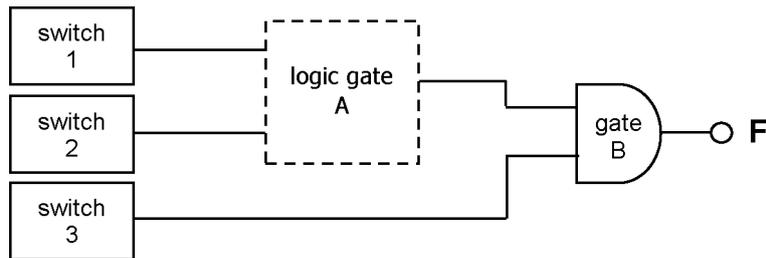
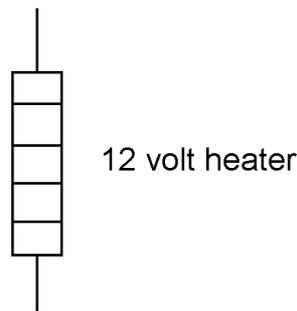

Fig. 1
Fig. 2
- 9 (a) A logic circuit is shown in **Fig. 1**. The logic inputs to the circuit are provided by three push to break switches.
- (i) Logic gate A in **Fig. 1** is an exclusive NOR (ENOR) gate. Draw the symbol for this gate. [1]
- (ii) Each of the push to break switches in **Fig. 1** provides a logic 0 when pressed and a logic 1 when released. With the aid of a circuit diagram show how one of the switches in conjunction with a resistor and power supply can be used to achieve this. [2]
- (b) The output from the logic circuit shown in **Fig. 1** is to be used to switch on a 12 volt heater using a thyristor when the output of the circuit is logic 1. The symbol for the heater is shown in **Fig. 2**.
- (i) Draw a circuit diagram to show how the output from the logic circuit shown in **Fig. 1** can be used to switch on the heater shown in **Fig. 2** using a thyristor. The circuit diagram should include a means of resetting the thyristor. Assume that the output from the logic circuit is 5 volts when logic 1. [4]
- (ii) If the heater shown in **Fig. 2** has a resistance of 60 ohms, calculate the power dissipated by it when operating at 12 volts. [2]
- (iii) The logic circuit shown in **Fig. 1** could be replaced by a circuit based on a PIC. Explain **two** advantages (excluding cost) of using a PIC based circuit to replace the logic circuit shown in **Fig. 1**. [2]